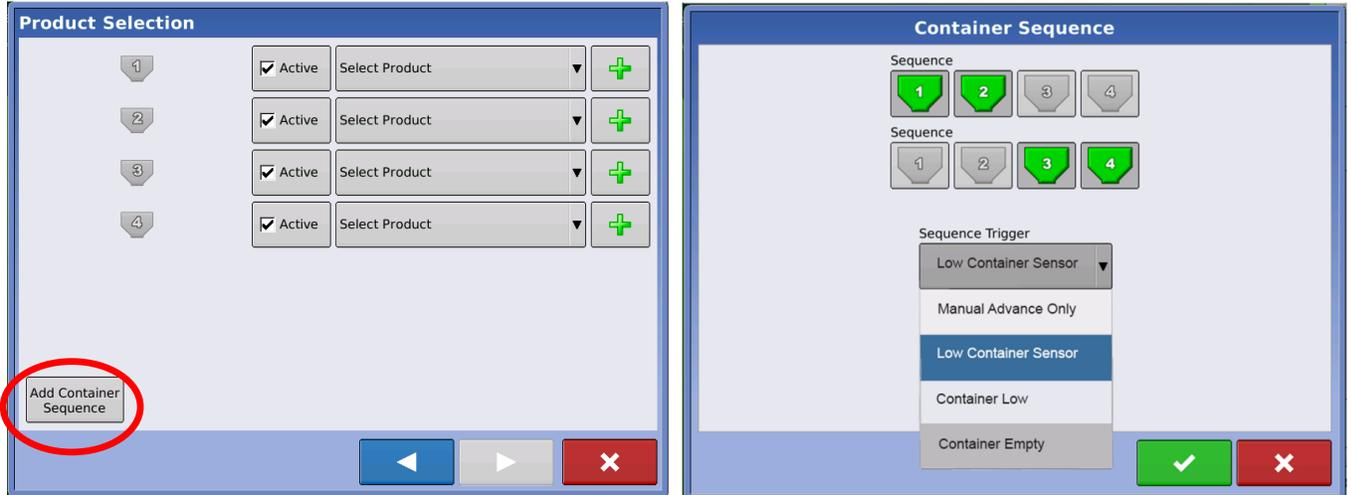

Figure 4: Configuring Container Sequencing
- **NEW:** Container Sequencing for Spinner Spreader Configurations. Apply the same product sequentially from multiple containers. Ag Leader Integra only. (Figure 4 and 5)
- **NEW:** Automatically advance through Container Sequences when product container is low or empty. (Figure 4)